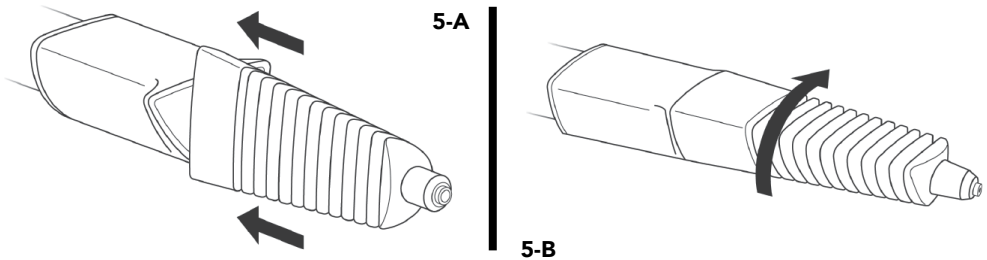

FIGURE 5
4. Slide Jet Nozzle onto Extension Hose, being sure to push it on as far as it will go (FIGURE 5-A). Rotate Jet Nozzle clockwise, turning it until you feel it "lock" into place and it will move no further (FIGURE 5-B).